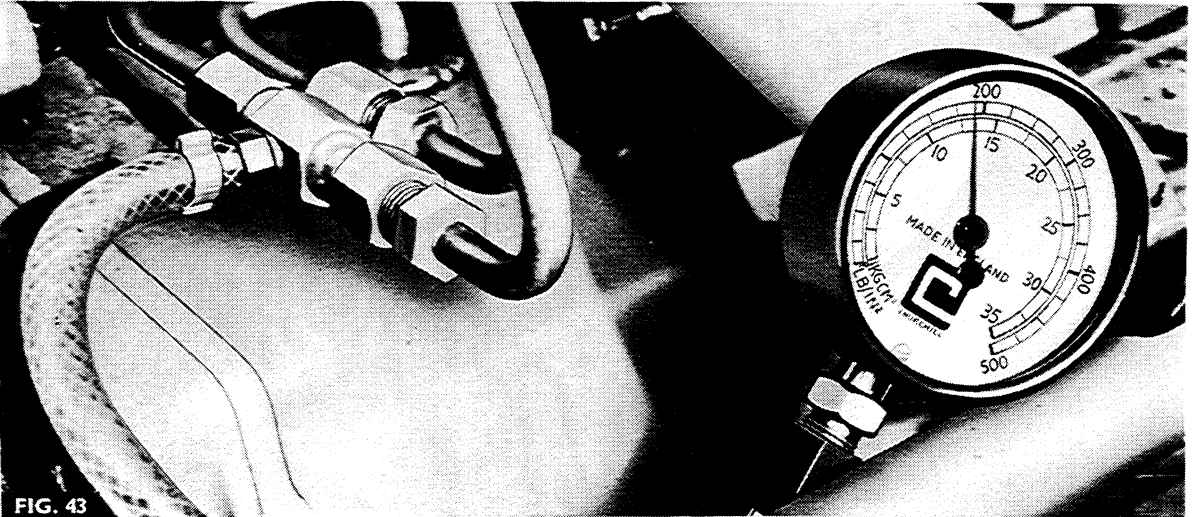

FIG. 43
1. Fig. 43. Disconnect a Multi-Power pipe, as shown then fit adapter MF 260-4/1 and the MF 260 gauge.